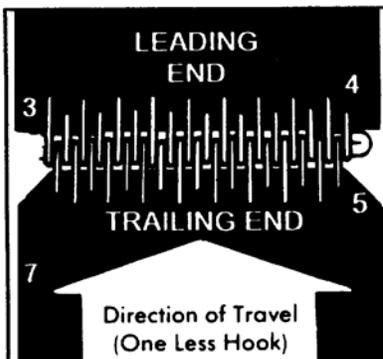

Figure 2-7b
The clipper belt lacer is provided to help the center mechanic manufacture replacement distributor belts. The optimum belt length can vary slightly from distributor to distributor. If possible, match the existing belt length. The belt lacing will add approximately 1/4 inch to the overall, installed belt length. One end of the belt should have lacing containing an odd number of individual hooks while the other end should have lacing with an even number of hooks (see Figure 2-7b). To make a belt, proceed as follows:
4. Use one more hook on leading edge than on trailing edge (Fig. 2-7b).